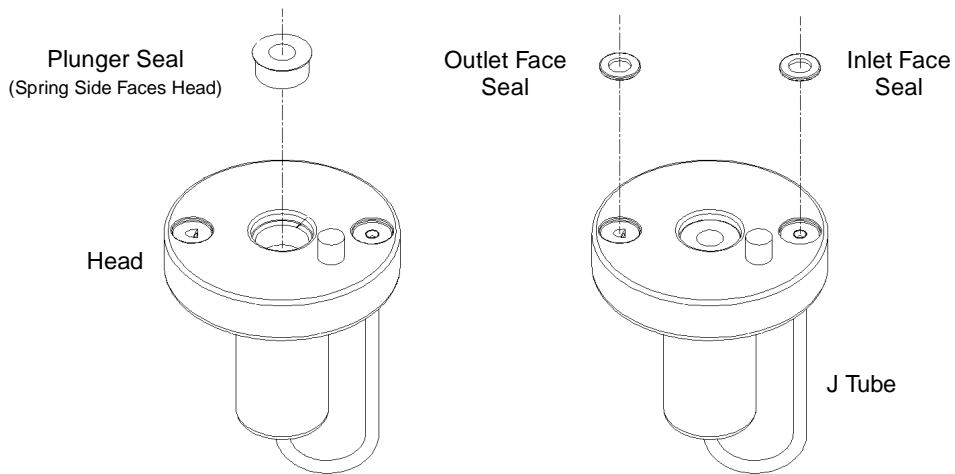

Figure 7-3 Plunger and Face Seal Orientation
Note: To ensure optimum performance, replace the plunger seal in a head when you perform service. Replace the face seals after you have replaced the plunger seal two or three times (see Figure 7-3).
2. Use the plastic end of the seal removal tool to remove the plunger seal from the head (Figure 7-3).
4. Place the new plunger seal on the seal insertion tool with the spring side facing away from the tool. Insert the tip of the tool into the plunger seal opening in the head (see Figure 7-3), then push firmly to install the seal.
2. Direct compressed air into the center of the face seal or use plastic tweezers to remove the inlet and outlet face seals from the seal openings in the head (Figure 7-3).